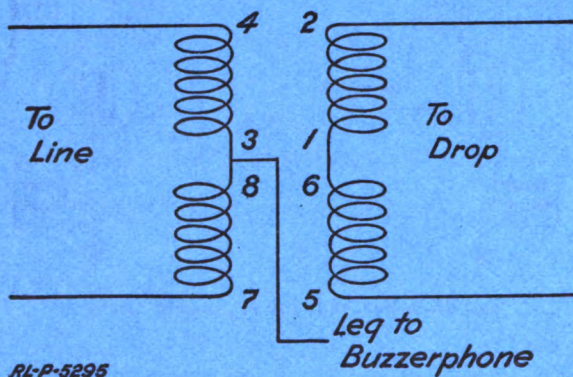

Fig. 50.—Repeating-coil connections
2. Mount the repeating coil near the line and cable terminal strips. Connect the terminals No. 1 and No. 6 together and connect No. 3 and No. 8 together. Connect leads of sufficient length to reach the terminal strips to the coil terminals 2, 4, 5, and 7. Connect a lead of sufficient length to reach the buzzerphone to the coil terminal 3 or 8. (See Fig. 50.)